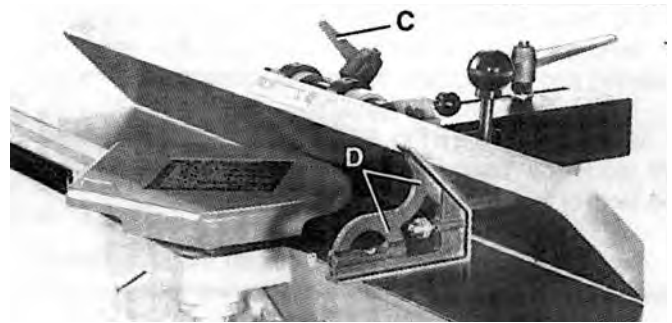

FIGURE 44
- Loosen lock handle (C) Fig. 44, and tilt fence inward as far as possible, as shown, and tighten lock handle (C).
- Using a square (D) Fig. 44 check to see if the fence is at a 45° inward angle to the table, as shown.